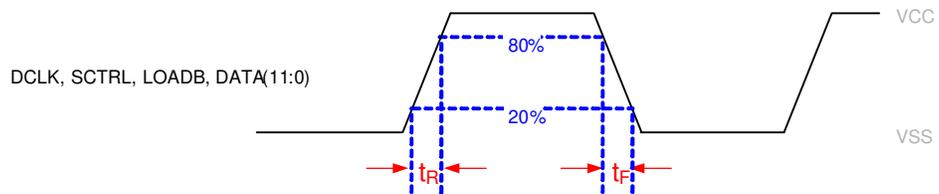
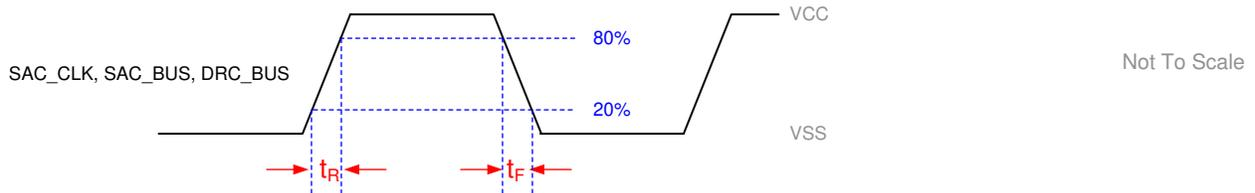

Figure 6-4. Rise and Fall Timing Parameters 1
Figure 6-5. Rise and Fall Timing Parameters 2
- (2) Refer to Figure 6-4 and Figure 6-5.